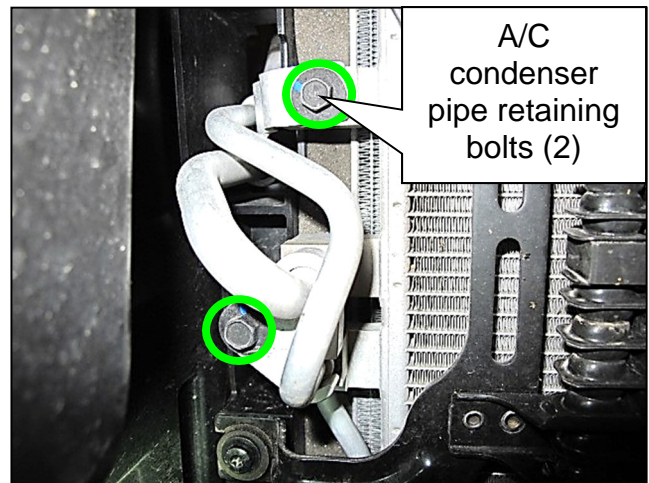

Figure 14
12. Install and torque the two (2) 10 mm A/C condenser pipe retaining bolts (Figure 14).